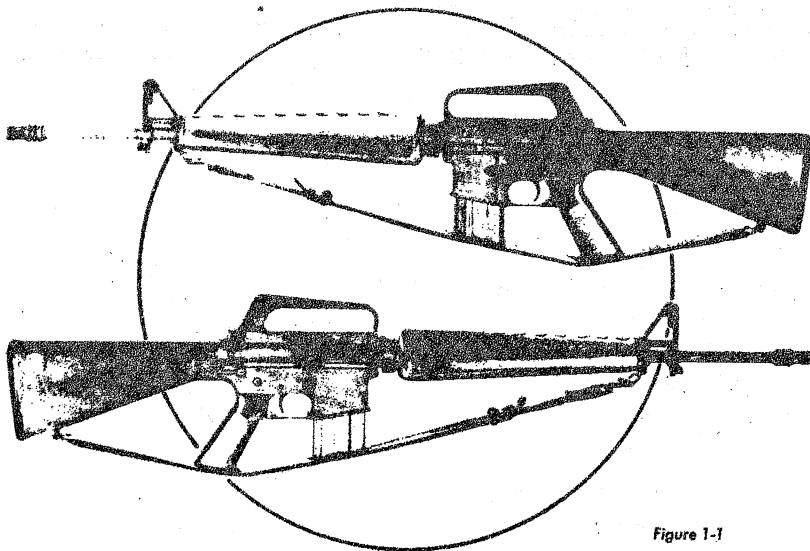
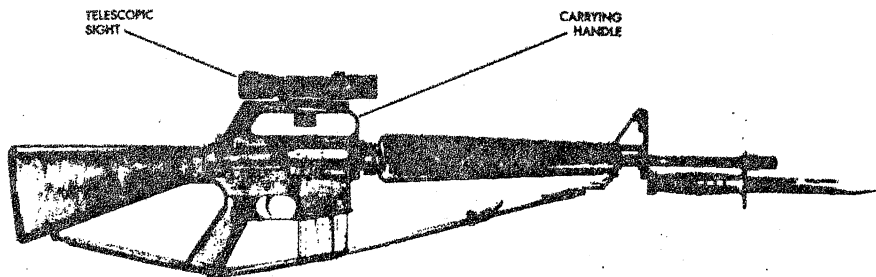

Figure 1-1
Figure 1-2
magazine-fed, gas-operated, air-cooled, shoulder weapon. It can be fired either automatically or semiautomatically simply by moving the safety-selector level. Figure 1-1 shows the left and right sides of the weapon. Figure 1-2 shows the rifle with some of the accessories which add to its versatility. Much of the versatility and performance, however, is gained through several new and unique design and construction features.
- The straight line design from muzzle to stock is shown in figures 1-1 and 1-2. This feature reduces the effect of recoil and vertical dispersion (climb), thus improving accuracy.